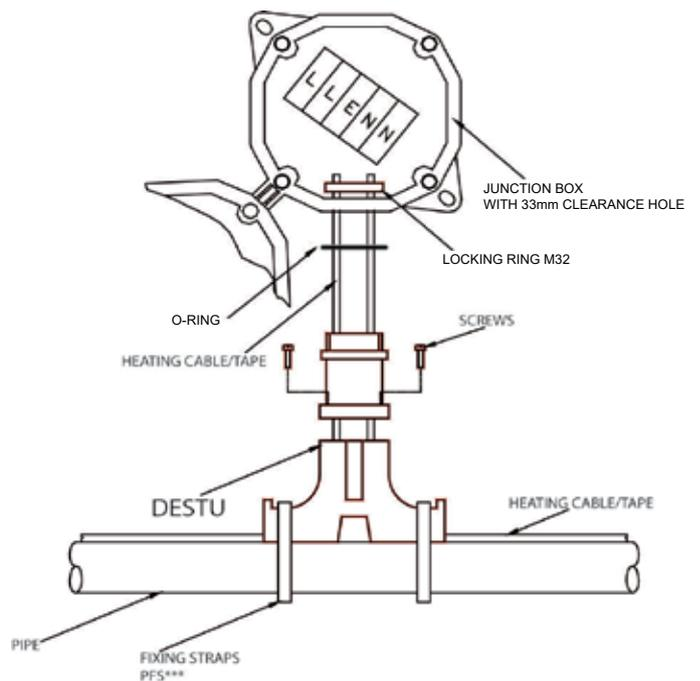

Fig 2a
- Referring to figure 2a (previous page), remove the four screws and lift off the top of the DESTU.